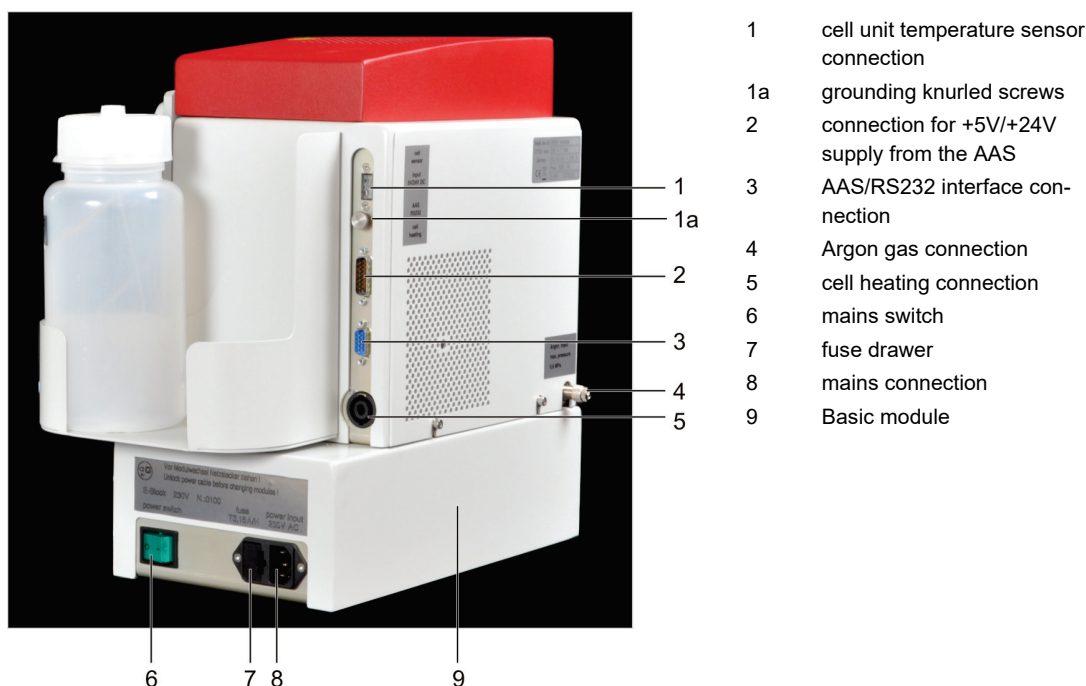

Figure 12 Hg/Hydride system HS 55 modular – connections on the right-hand side
- Heating cable at the connection "cell heating" (5, see Figure 12)
- Temperature sensor cable at the connection "cell sensor" (1)
- D-Sub jack "HS" of the thinner cable to connection "input 5 V/24 V DC" of the HS 55 modular (2) The D-Sub jack "AS" remains empty.
- Connect the signal cable to connector "HS" of the AAS device and to connector "AAS – RS232" of the HS 55 modular (3).